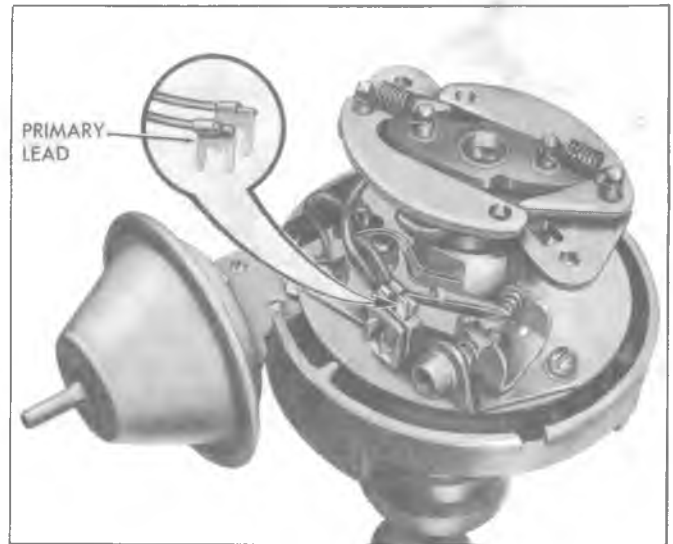

Fig. 5i—Distributor Lead Arrangements
5. Remove the primary and condenser leads from their nylon insulated connection (fig. 5i) in contact set.
CAUTION: Install the primary and condenser leads as shown in Figure 5i. Improper installation will cause lead interference between the cap, weight base and breaker advance plate.
2. Disconnect condenser lead (fig. 5i) from terminal.
NOTE: Make sure that new condenser lead is installed in proper position (fig. 5i).